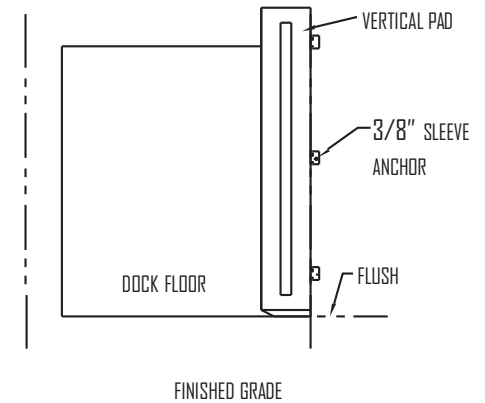

FIG 3
- Make sure frames are plumb and square from bottom to top (Fig. 3).
- Taking the prepared pads, level the bottom of pads with dock floor or at the top of dock bumpers on low docks (Fig.3).